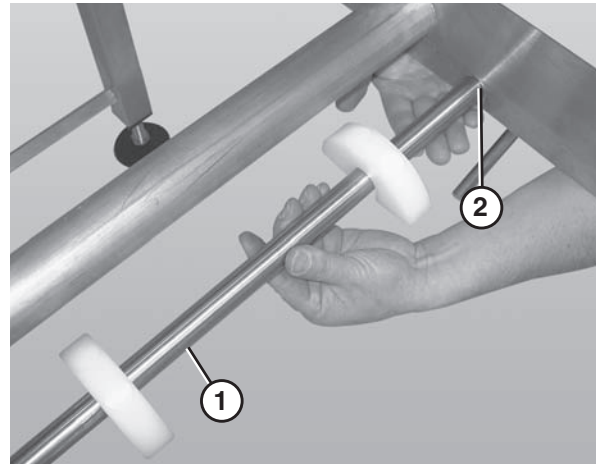

Figure 44
- Slide the return shaft (Figure 44, item 1) up and through the large slot (Figure 44, item 2) in the frame (picture shown without the belt or wear strips).
- Push up on the return shaft (Figure 44, item 1) and slide the notched end of the shaft through the small slot on the opposite side of the frame.